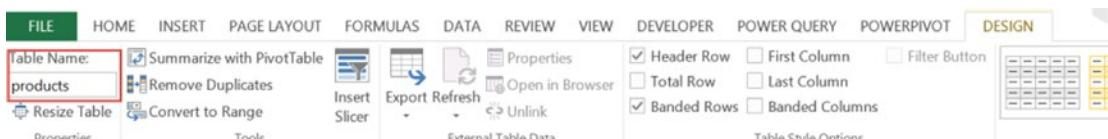

Figure 21-5. Defining the table name on the Design tab’s Properties panel
5. Give your table a name in the Design tab’s Properties group (Figure 21-5).